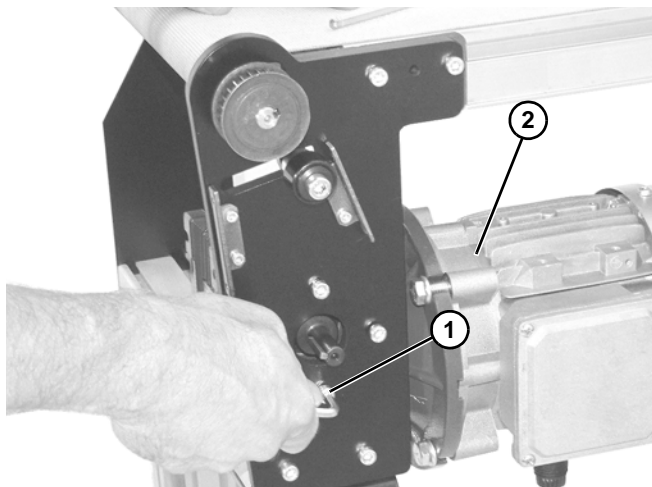

Figure 26
1. Remove screws (**Figure 26, item 1**) and gearmotor (**Figure 26, item 2**).